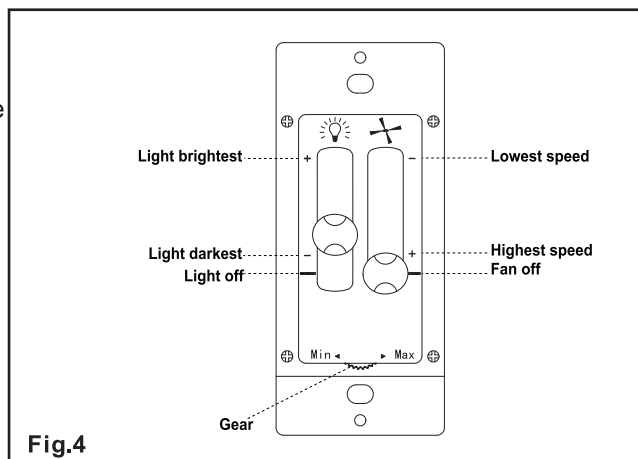

Fig.4
1. (Fig. 4) Carefully tuck the wire connections inside the junction box. Secure the wall control with the two screws provided.